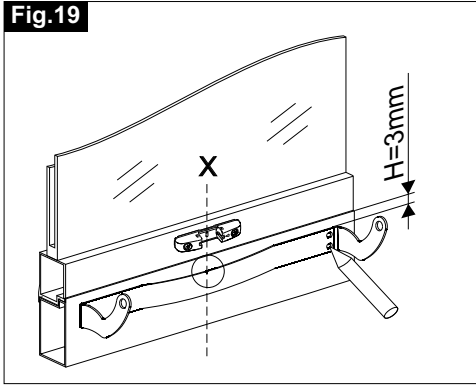

Fig.20
- 8) Fig.20/21- With a suitable drill, perform four holes of  $\varnothing 3.7$  on the frame and tighten the bracket with proper screws;